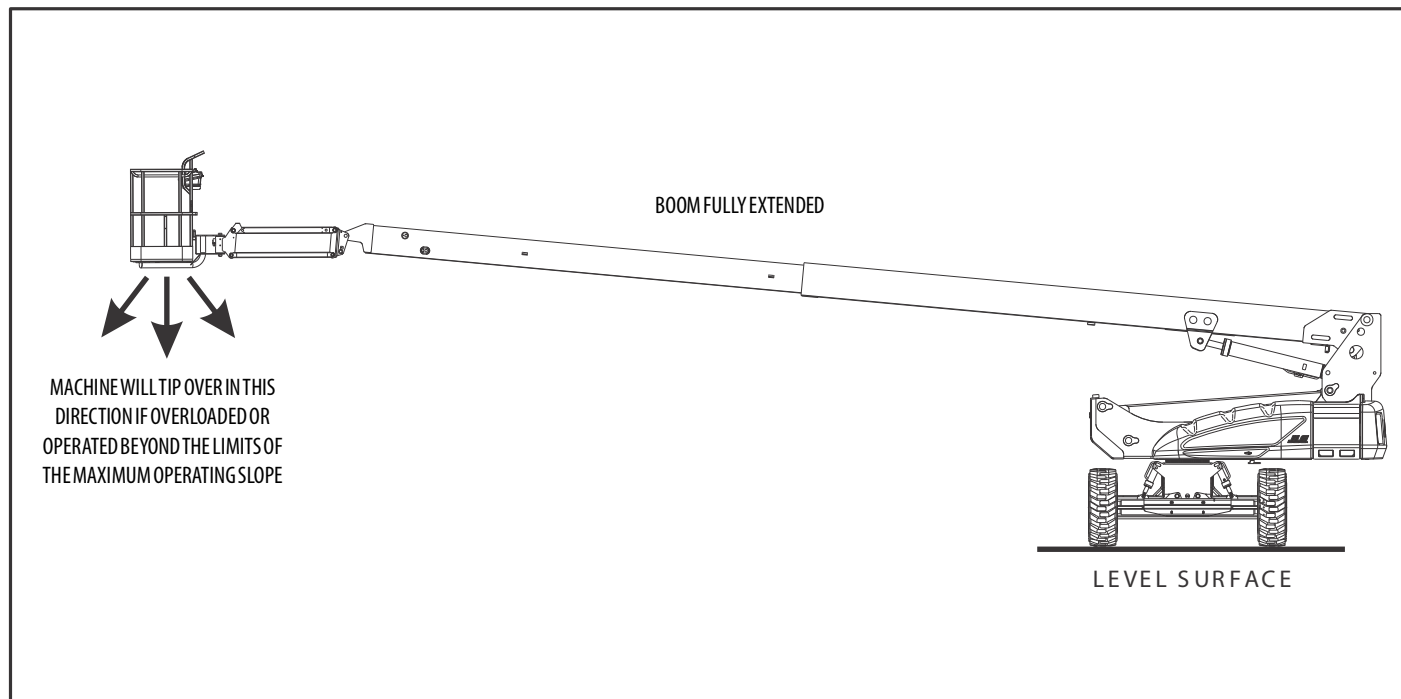

Figure 4-1. Position of Least Forward Stability
Machine stability is based on two (2) conditions which are called FORWARD and BACKWARD stability. The machine's position of least FORWARD stability is shown in (See Figure 4-1.), and its position of least BACKWARD stability is shown in (See Figure 4-2.)